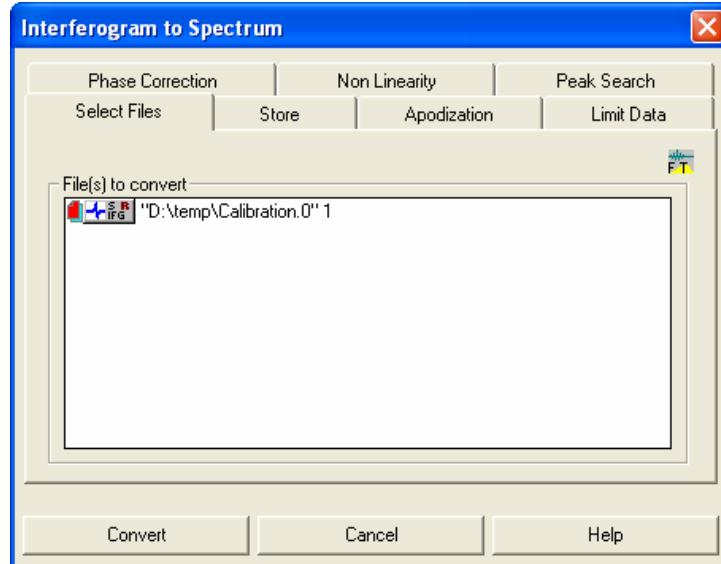

Fig.18: "Interferogram to Spectrum" dialog window - "Select files" page
- Select the data block “S_IFG^R” (containing the real part interferogram) of file resulting from the calibration measurement. Then, select in the “Manipulate” menu the “Interferogram to Spectrum” function. Thereupon, the dialog window shown in figure 18 appears.